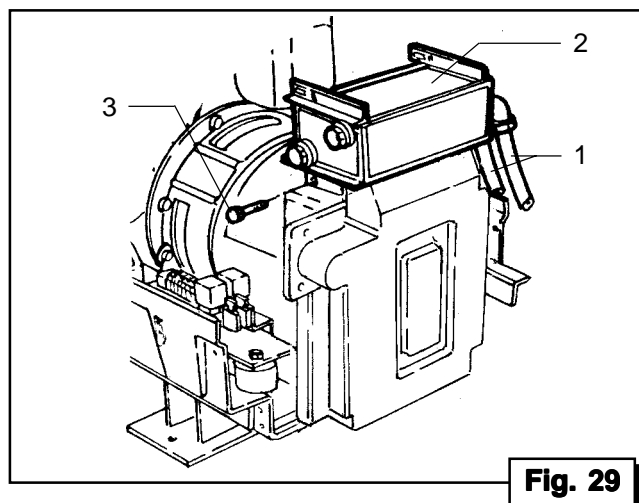

Fig. 29
- Distaccare i tubi acqua (Fig. 29, Rif. 1)
- Togliere le viti (Fig. 29, Rif. 3) e rimuovere lo scambiatore (Fig. 29, Rif. 2)
- Disconnect the water hoses (Fig. 29, Ref. 1)
- Remove the screws (Fig. 29, Ref. 3) and the heat exchanger (Fig. 29, Ref. 2)